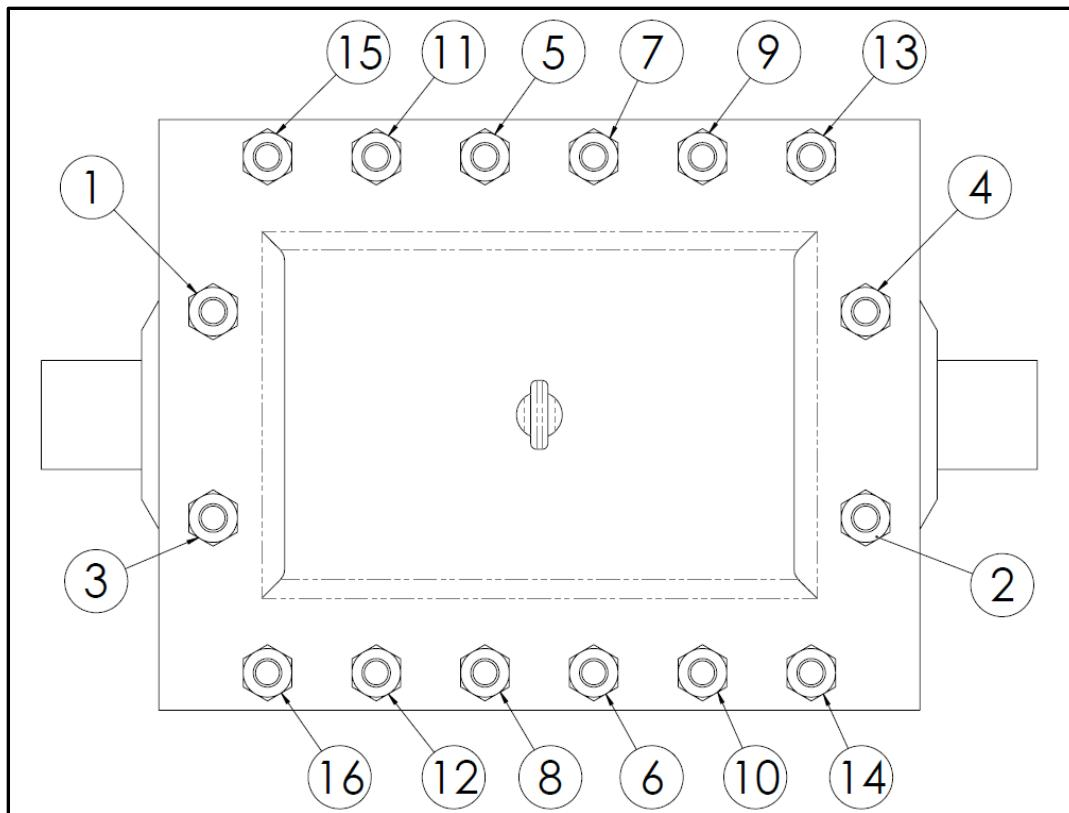

Figure 5
5. Torque the studs uniformly as indicated by the corresponding value per bolt size from the **PLIDCO Torque Chart** located on page 12 of these instructions. The best results are obtained by maintaining an equal gap all around the side bars while tightening the studs. Ensure there is full nut engagement by having a minimum of 1/4 inch (6.4 mm) of stud extending beyond the nut. The sequence for torqueing the studs should follow the pattern shown Figure 5, and should be executed repeatedly as follows: